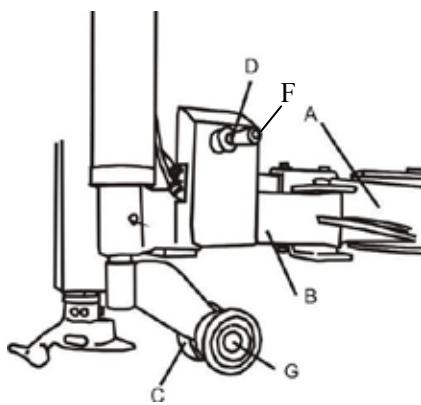

Fig. 8
Roller lifting handle (fig. 8, D) is for lifting and lowering roller C, G so as to adjust tyre demounting / mounting vertical height.
- Operate handle (fig. 8, D) up, then roller C, G goes up.
- Operate handle (fig. 8, D) down, then roller C, G goes down.